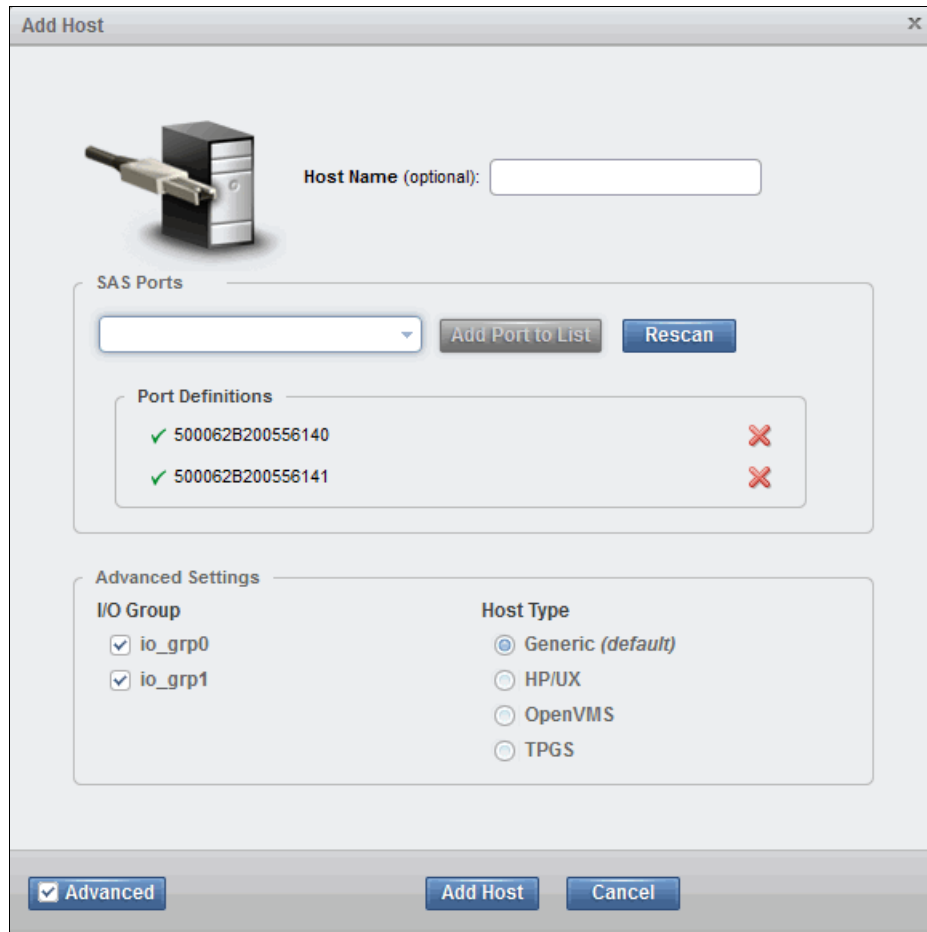

Figure 4-57 Adding the host WWPNs
5. Select the WWPNs for your host, and click **Add Port to List** for each. These are added to **Port Definitions**, as shown in Figure 4-57.